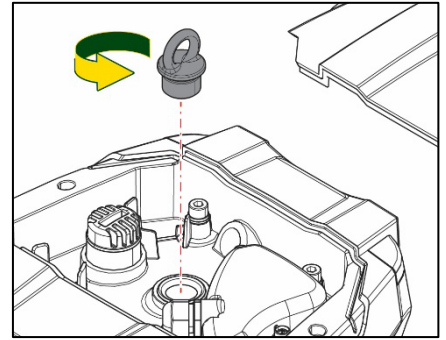

Figure 22
2. Remove the lifting eyebolt inside the upper compartment by unscrewing it (Fig.22). During the operation take care not to let impurities (liquid or solid) enter the motor.